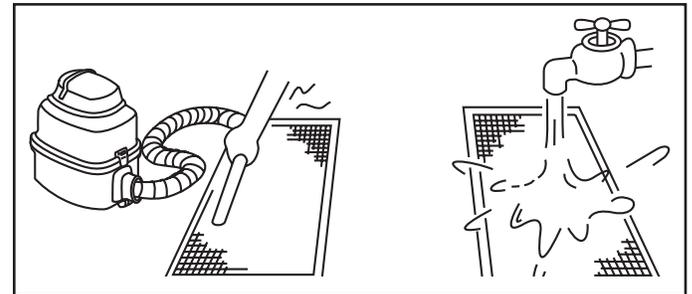

Figure 20. Air Filter Cleaning
3. Clean the air filter using vacuum or water. For heavy accumulations, use soft brush and mild detergent. See Figure 20.